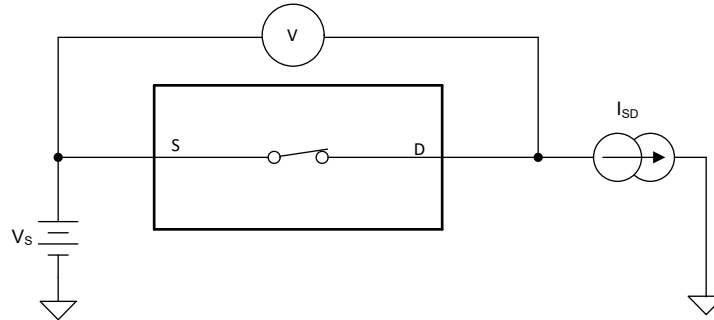

图 7-1. On-Resistance Measurement Setup
The On-Resistance of a device is the ohmic resistance between the source (Sx) and drain (Dx) pins of the device. The On-Resistance varies with input voltage and supply voltage. The symbol  $R_{ON}$  is used to denote On-Resistance. 图 7-1 shows the measurement setup used to measure  $R_{ON}$ . Voltage (V) and current ( $I_{SD}$ ) are measured using this setup, and  $R_{ON}$  is computed with  $R_{ON} = V / I_{SD}$ .